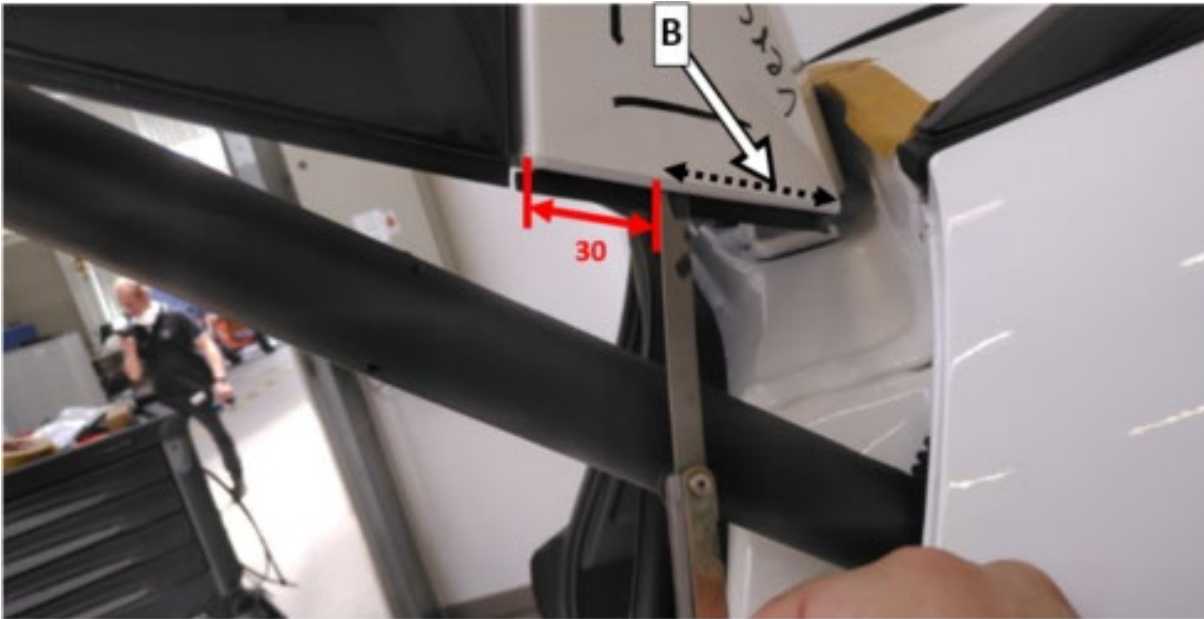

Figure 6
4. Open tailgate and carefully check at a distance of **30 mm** to the left and right of the edge in the test area (B, Figure 6) whether the gauge can be slid between the outer skin and the spoiler lip.